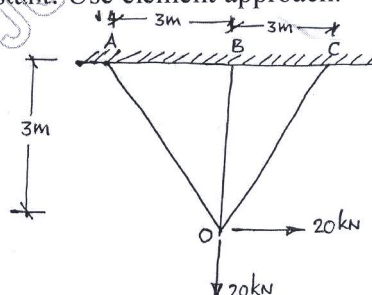

Fig. Q4
- 4 a. Determine the member forces in a joint loaded as shown in Fig. Q4, by force transformation (20 Marks)